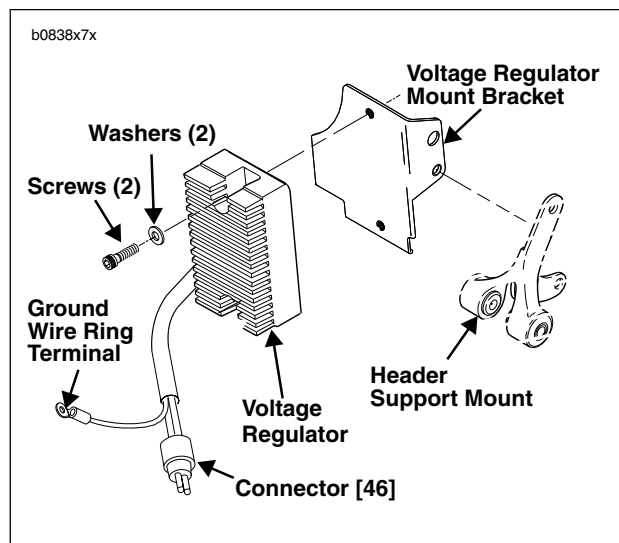

Figure 7-27. Voltage Regulator
- b. See Figure 7-27. Disconnect BK ground wire from gold post of main circuit breaker. Cut and mark locations of cable ties while removing.
1. See Figure 7-27. Attach **new** voltage regulator to bracket using two screws and washers. Tighten screws to 9-11 ft-lbs (12-15 Nm).